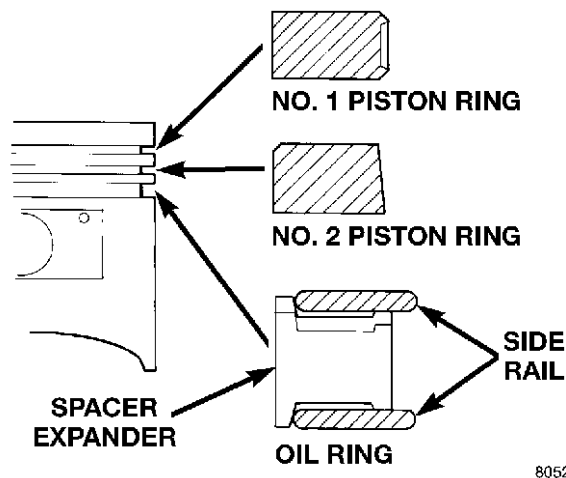

Fig. 81 Piston Ring Installation
(1) Install rings with manufacturers I.D. mark facing up, to the top of the piston (Fig. 81).
- Install No. 2 piston ring and then No. 1 piston ring (Fig. 81).